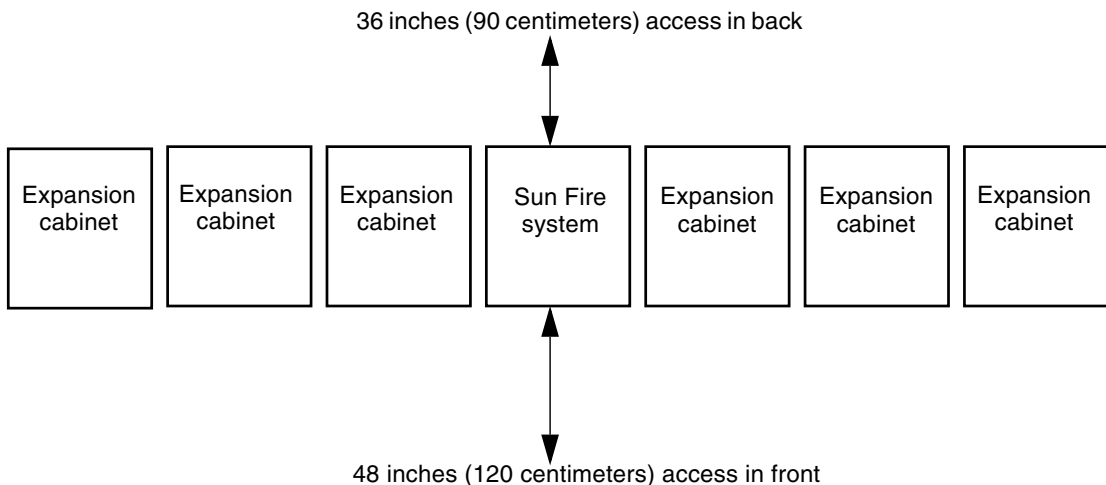

FIGURE 1-1 Sun Fire System Access Areas—Top View
- Sun Fire E4900 systems require approximately 48 inches (120 centimeters) of space in front and 36 inches (90 centimeters) in back (FIGURE 1-1) for access by service personnel.